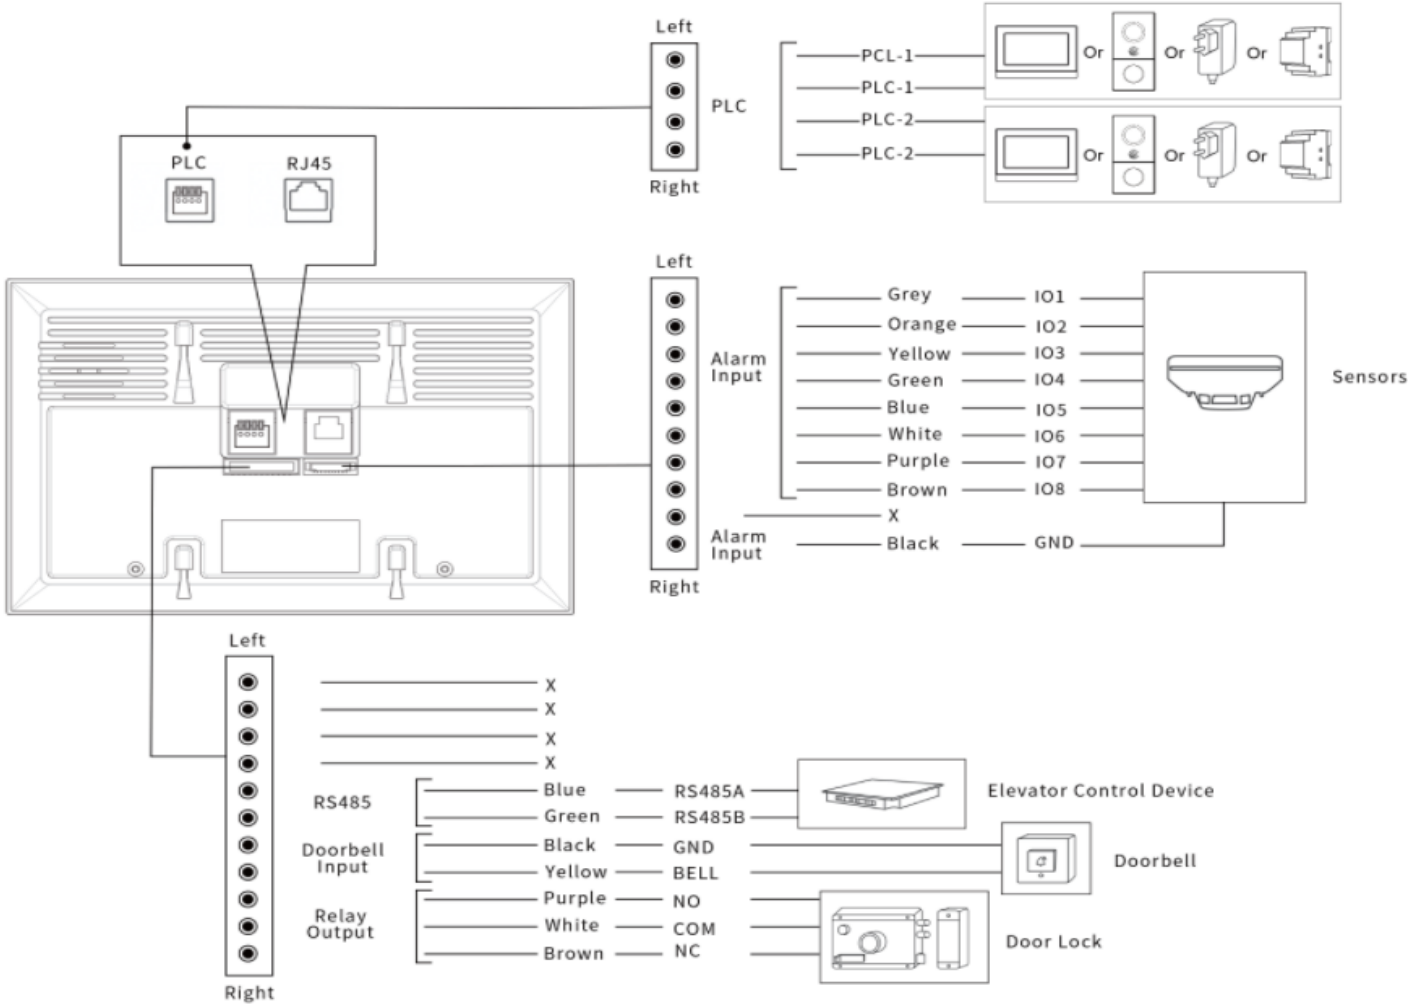

Figure 5: MyBell 2-Wire Indoor Monitor - wiring
7. Connect the wires according to Figure 5.